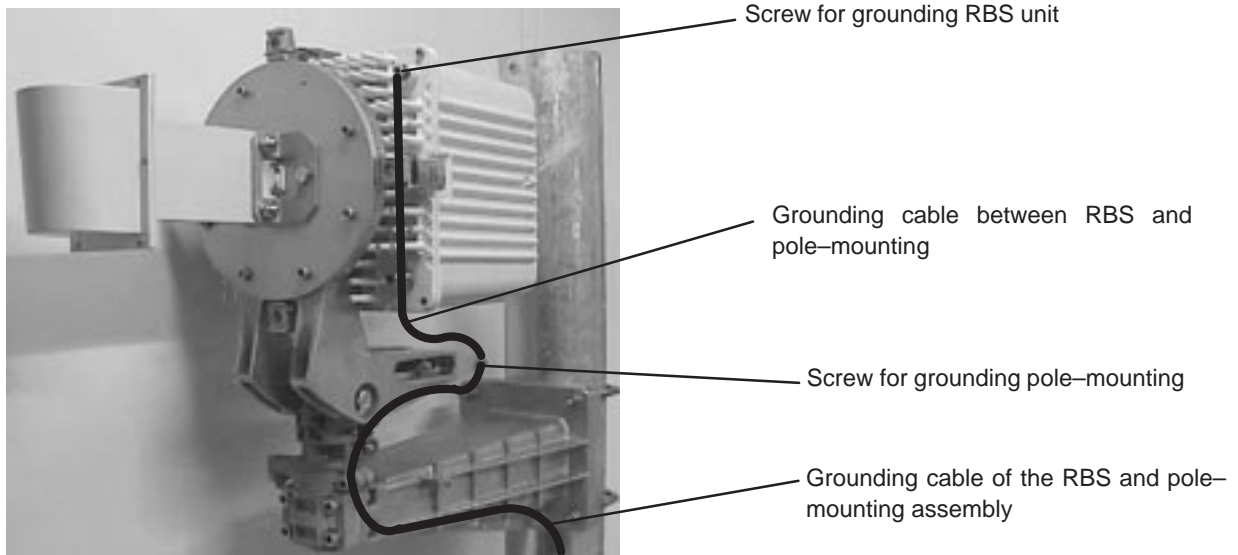

Figure 19 – Grounding the outdoor equipment
- On the pole–mounting assembly, the ground terminal comprises two tapped holes et the rear of the metal cast supporting the RBS radio (see Figure 19). According to the installation, choose the most suitably positioned tapped hole. The grounding screw screws on in one of the two nuts inserted into the metal cast supporting the RBS. **When changing the grounding position block the nut to avoid to lose it.**
1. Crimp a terminal lug (ref. 16–6 CT) at each end of the cable linking the RBS unit and pole–mounting ground connections.
2. Screw one of the grounding cable lug into the tapped hole on the front of the RBS radio unit (see Figure 19). Use an M6 screw.
3. Crimp a lug (ref. 16-6 CT) on to the grounding cable of the pole-mounting and RBS assembly.